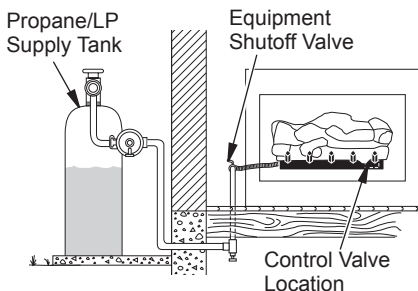

Figure 16 - Checking Gas Joints (Propane/LP Only)
3. Check all joints from gas meter to equipment shutoff valve for natural gas or propane/LP supply to equipment shutoff valve for propane/LP (see Figure 16 or 17). Apply noncorrosive leak detection fluid to all joints. Bubbles forming show a leak.
4. Check all joints from equipment shutoff valve to gas control (see Figures 16 and 17, page 15). Apply noncorrosive leak detection fluid to all joints. Bubbles forming show a leak.